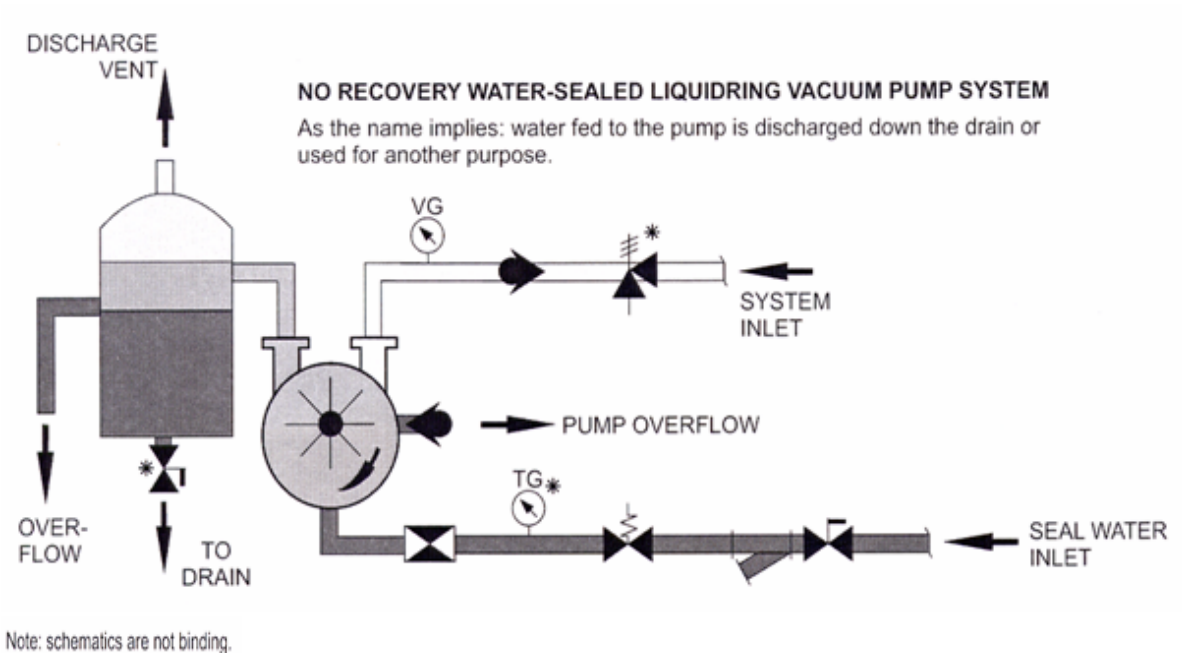

FIGURE 2
There are three (3) sealing liquid arrangements as shown in figure 2,3,4 based upon the amount of sealing water recovered and recirculated. The water available at the pump site may contain minerals which when used as a seal water will cause an undesirable scale to form inside the pump. This should be a consideration in selecting the most satisfactory arrangement, as any pump size and model can have any one of the three arrangements (Figures 2,3,4).
NO SEALANT RECOVERY (Figure 2, page 11)